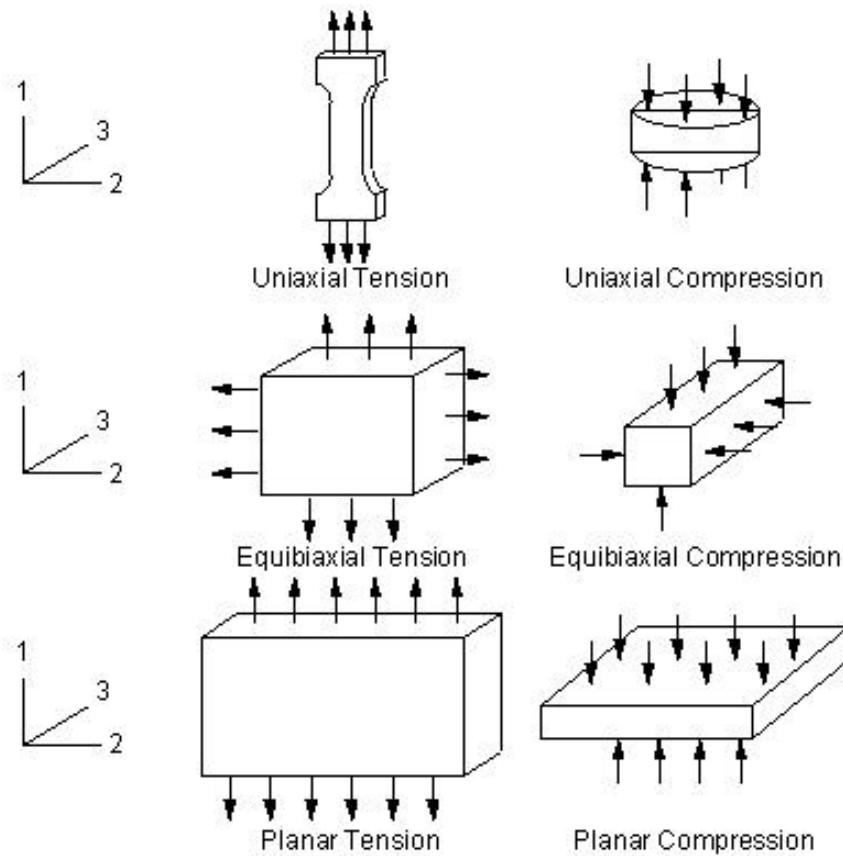

Figure 4.16 – Deformation Modes
- Figures 4.16 and 4.17 give you all the available AND equivalent testing modes